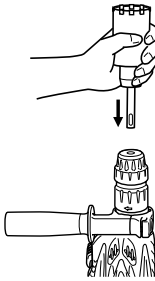

Fig. 20
- (2) Mount the core bit shank to the rotary hammer. (Fig. 20)